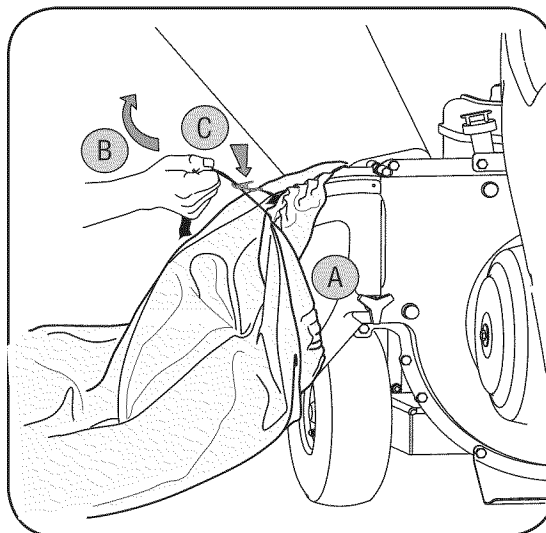

Figure 3-10
- c. Clip drawstring back on itself, tight against chute deflector to secure into position. See Figure 3-10.